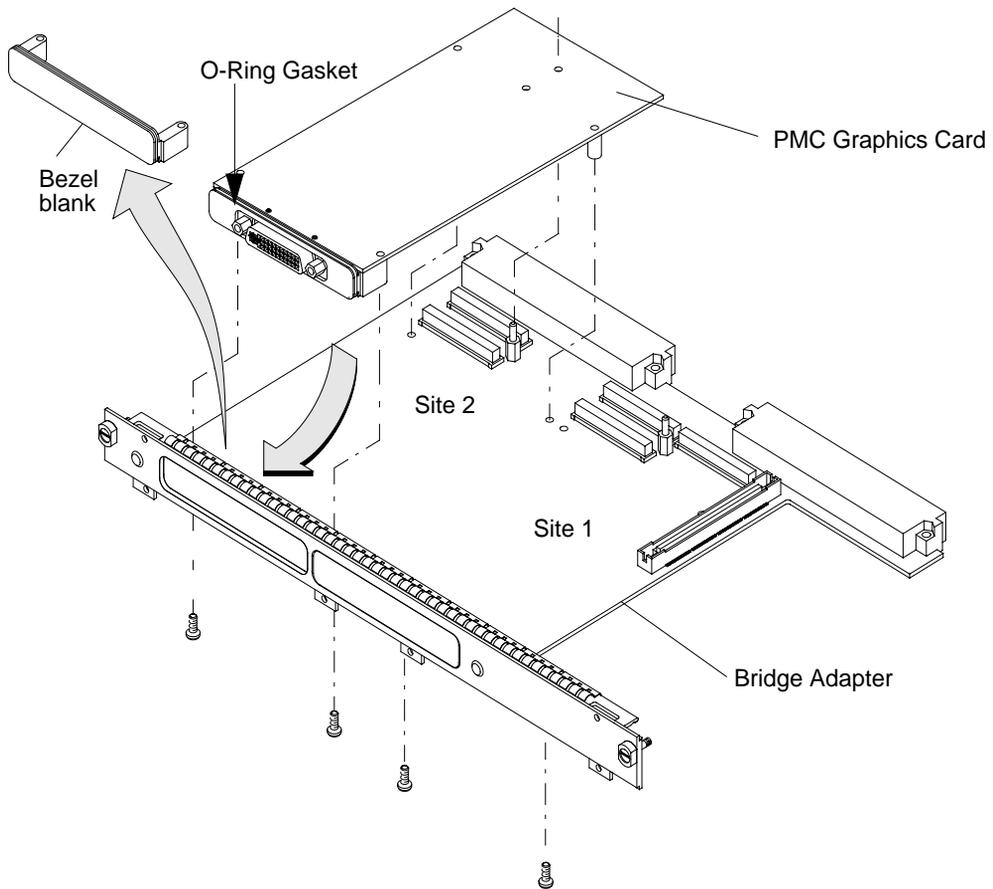
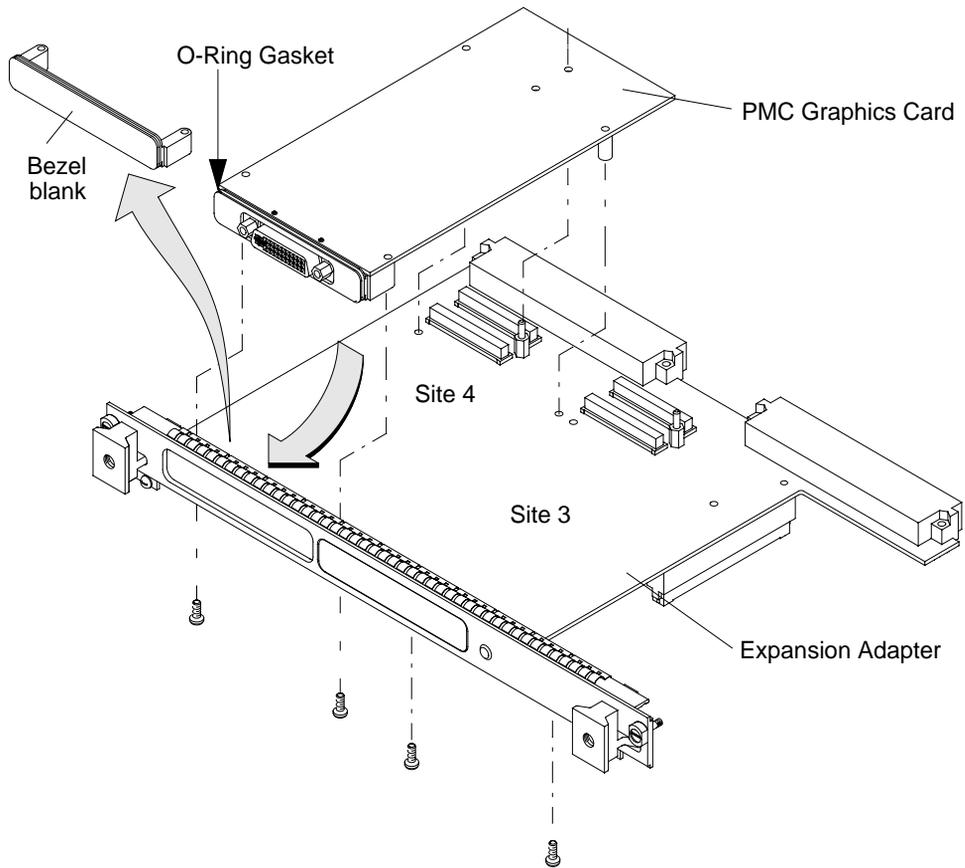

Figure 1
Figure 2 **Installing a PMC Card onto the Expansion Adapter**
- 7 On the PMC bridge adapter or expansion board, at the site where you will be installing the PMC card, remove the two screws that secure the bezel blank, and remove the blank. See Figure 1 and Figure 2.
- 8 Install the PMC card onto the adapter by aligning the front of the card with the front bezel, and the rear of the card with the connectors and keying pin. See Figure 1 or Figure 2. There are four screws that secure the PMC card from the bottom of the adapter (use the screws included with the kit).